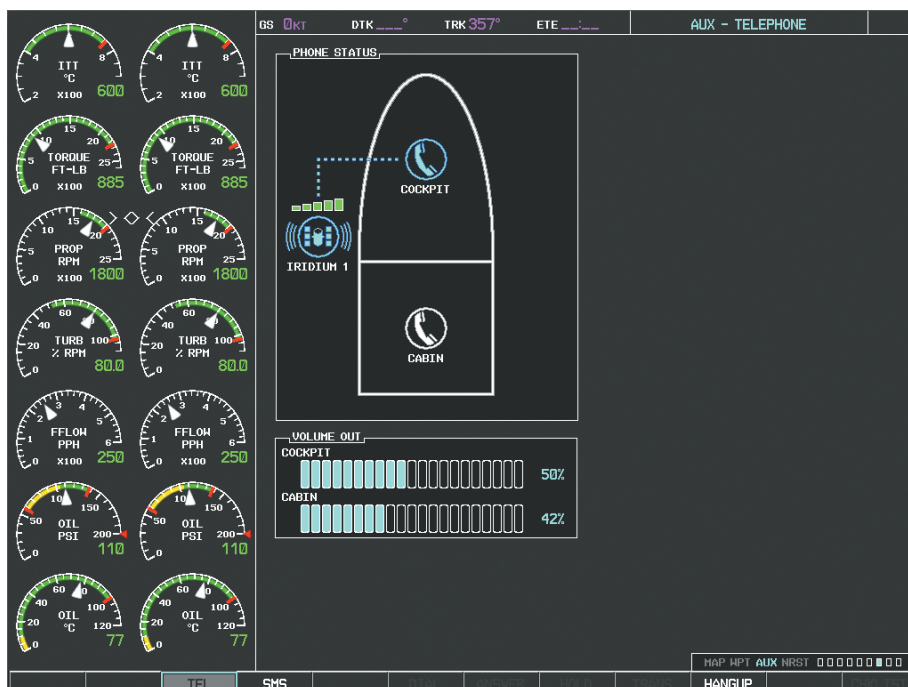

Figure 8-88 System is Making the Connection
- 7) Press the **ENT** Key. The system will begin calling the number, as in Figure 8-88.